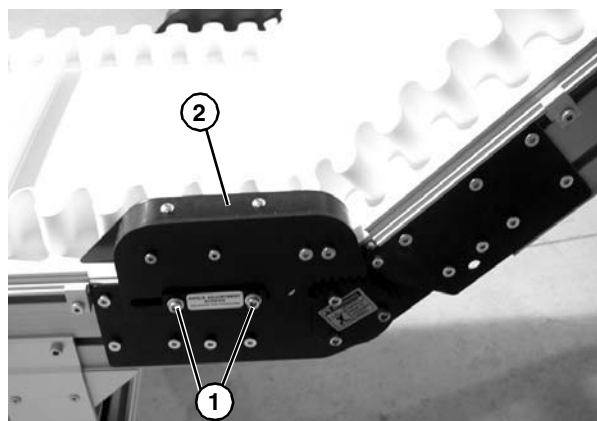

Figure 24
- If equipped, remove screws (**Figure 24, item 1**) and remove lower knuckle return roller assembly (**Figure 24, item 2**) on both sides of conveyor, note the position of the meshing teeth.